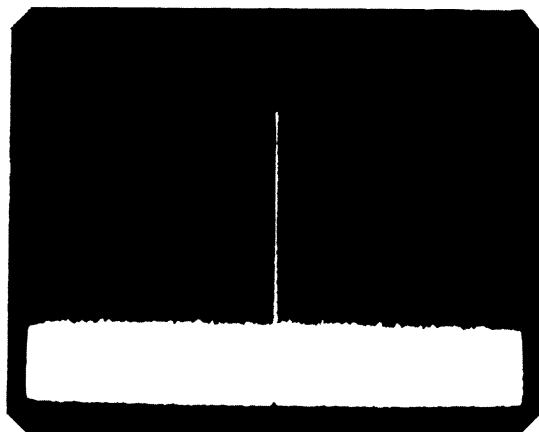

Figure 5-3. 300MHz Level.
4. Adjust A8C3 (BPF ADJ) until the level of the 300MHz spectral display on the 141T CRT is maximum. Refer to Figure 5-3.